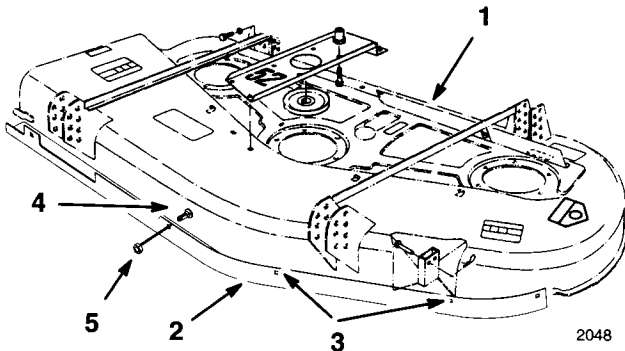

Figure 3
1. Locate baffle inside front of mower, so left end fits into curved edge and bottom edge is 3/4" (19 mm) below front lip of deck. Using baffle as a guide, mark and drill (5) 9 mm holes in front of mower as shown (Fig. 3).
2. Install front baffle inside mower with 5/16" bolts, from the inside and secure with 5/16" thin lock nuts (Fig. 3).